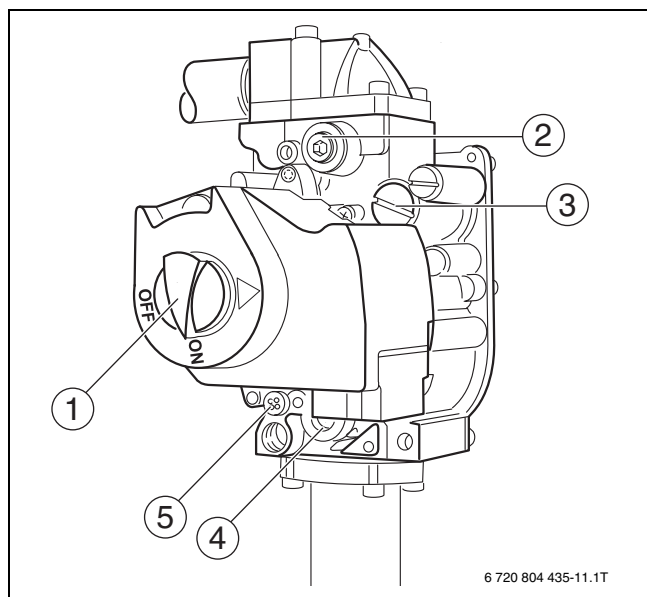

Fig. 11 Gas valve
- ▶ Compare the orifice pressure with the values in table 4. If it differs by more than 0.2" W.C., adjust accordingly. To set the orifice pressure, the protective screw on the gas valve must be removed (→ figure 11, page 8). Turn the adjustment screw clockwise to increase the pressure, and counterclockwise to reduce the pressure. This setting must be adjusted while the boiler is operating.